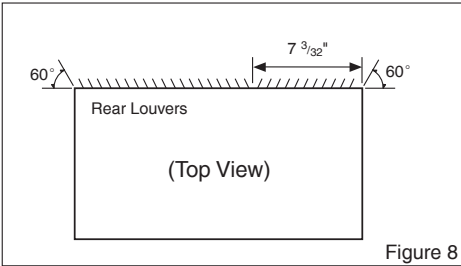

Figure 8
- 1 Redirect the louvers at the back of the wall sleeve to 60° angle as shown in the Figure 8. The use of pliers is recommended.